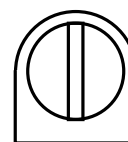

Fig. 7
*The bar of the stopcock coupling must be exactly parallel to the lateral edges of the DMP Titrino, see Fig.7.*